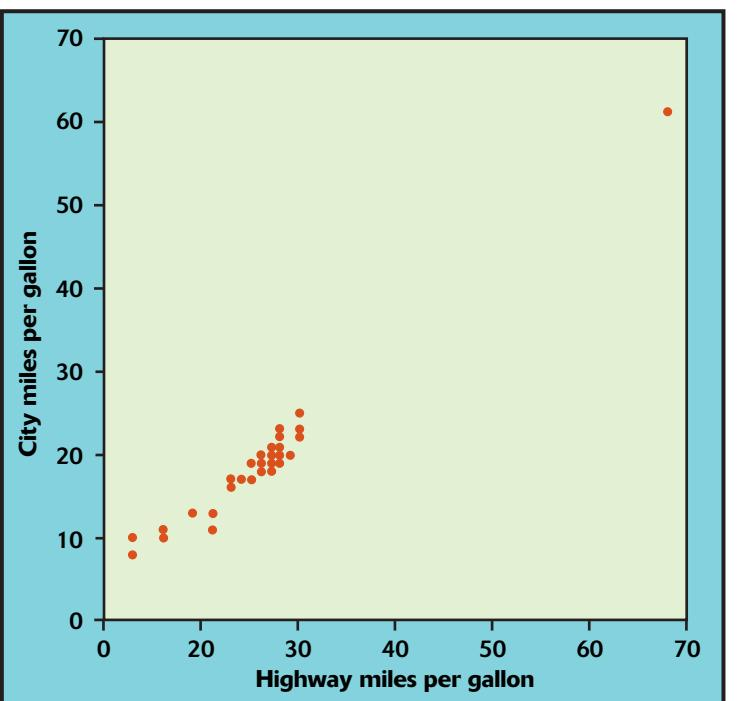

FIGURE 2.2 City and highway fuel consumption for 2001 model two-seater cars, for Exercise 2.5.
- 2.5 **Your mileage may vary.** Figure 2.2 plots the city and highway fuel consumption of 2001 model two-seater cars, from the Environmental Protection Agency's *Model Year 2001 Fuel Economy Guide*.